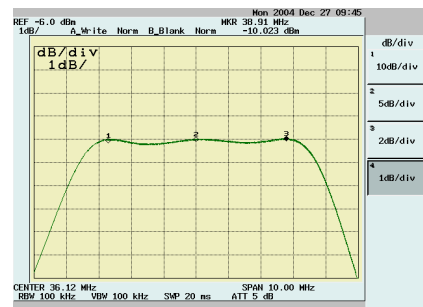
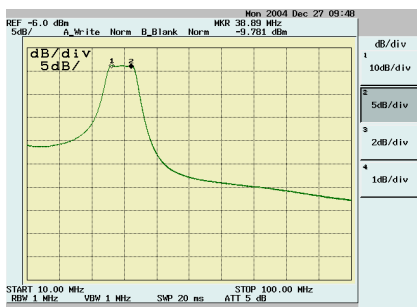

Fig. 4
Fig. 5
- Set **JP3**, **JP4** and **JP5** on and check the response of the filter curve (Fig.4) to the desired passing band, if needed retouch **R3**, **R5** and **R7** to correct the ripple in band and **C1**, **C3** and **C4** to equalise the group delay of the filter obtaining a frequency response as in Fig.5.